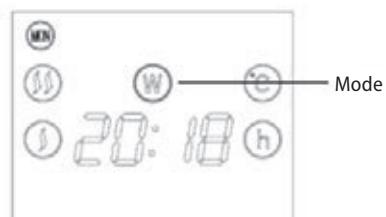

Fig. 5
Press the (SET) button to switch to the timer's weekly mode, the display will show (W), see Figure 5.